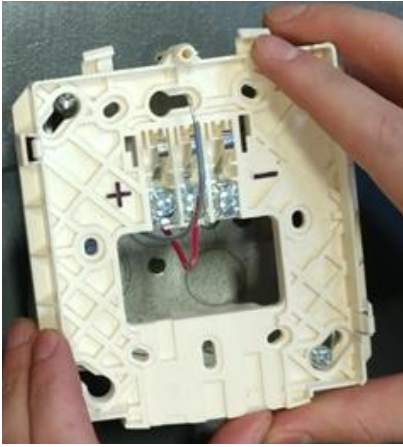

Figure 13.4
6. See **Figure 13.4** Remove Signal Horn base-plate from back box.